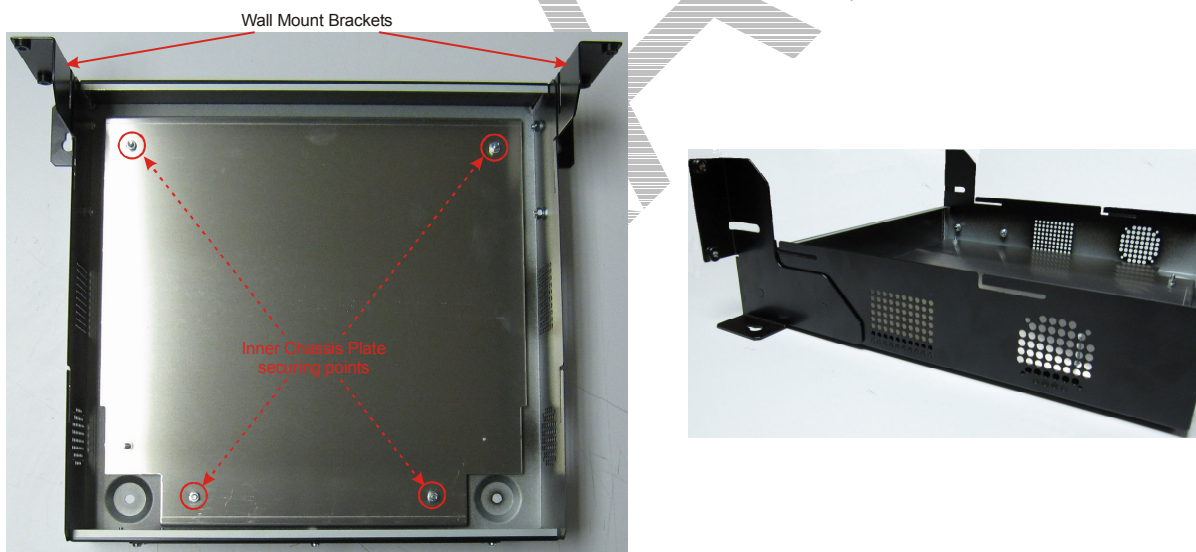

Figure 4. Wall Mount Assembly.
7. Attach the two wall mount brackets to the wall mount case using M6 nuts and washers (see **Figure 4** overleaf).
8. Using the M5 nuts and washers, fit the wall mount inner chassis plate into the wall mount unit (see **Figure 4** overleaf).